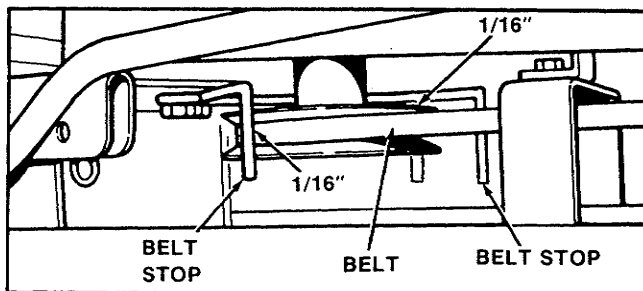

Figure 14. PTO Pulley Belt Stops
- With the PTO engaged, measure the gap between each PTO pulley belt stop and flat side of belt (figure 14). The gap should be 1/16 inch (1.5 mm). (The belt stops are also shown in figure 25 on page 15.) If not, adjust as follows.